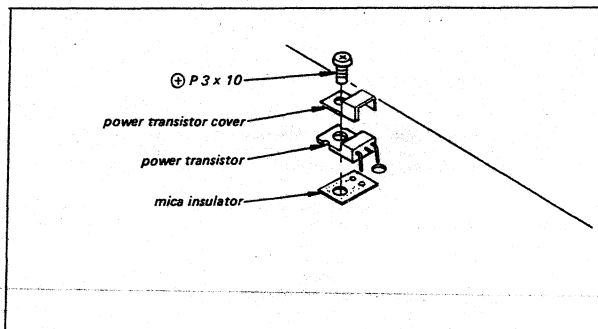

Fig. 2-8. Power transistor replacement
2. Remove the screw (⊕ P 3 x 10) securing the power transistor to the heat sink as shown in Fig. 2-8.